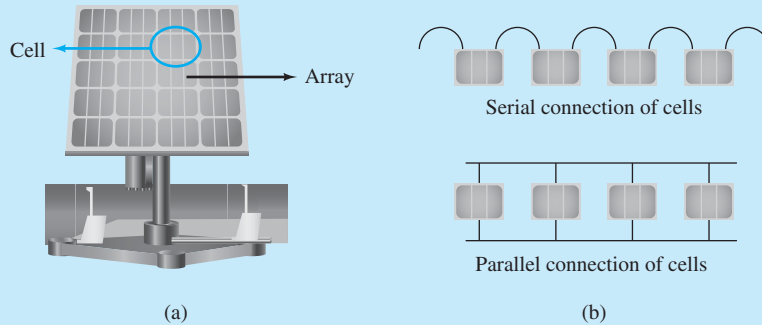

FIGURE 3.21 Solar cell module and array.
Solar cells are usually arranged in a PV module and modules are wired together in a PV array to produce the required output power, as shown in Figure 3.21(a). The current produced by a solar cell is proportional to the solar illumination level and the produced voltage is almost invariable to the solar illumination level.
- Which type of cell connection [series-connected and parallel-connected; see Figure 3.21(b)] is more robust?